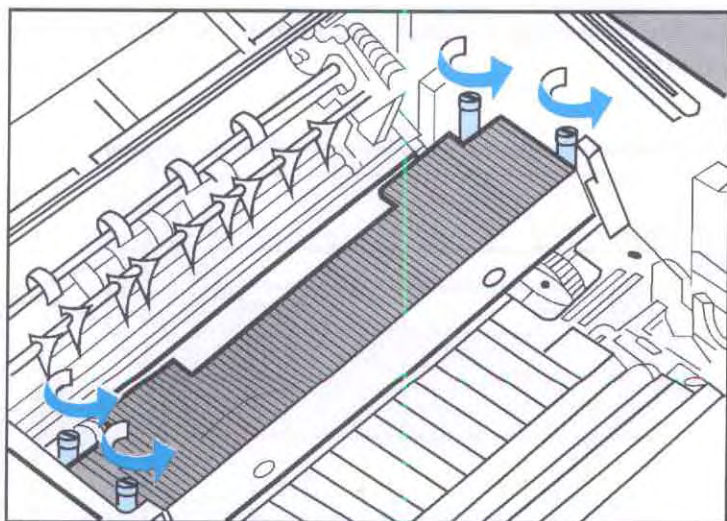

Figure 4-3. Removing the Fusing Assembly Screws
3. Remove the (4) screws attaching the Fusing Assembly to the printer (see Figure 4-3).